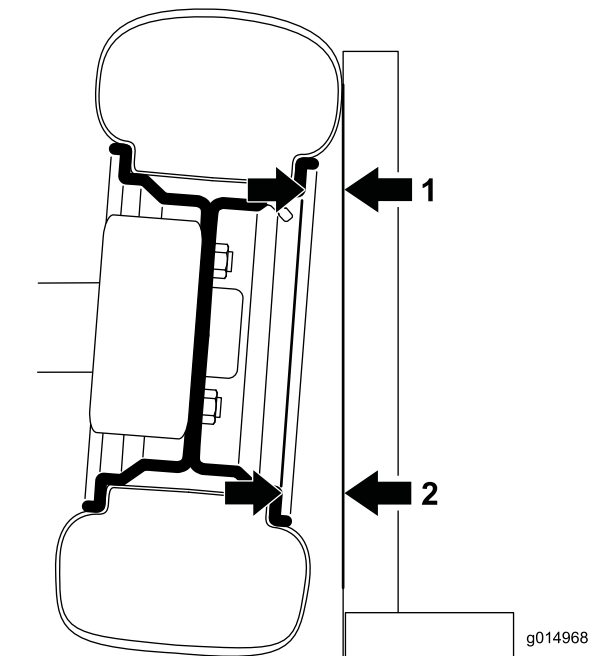

Figure 52
1. To check the camber, place a 90-degree square on the ground with the vertical edge touching the face of the tire (Figure 52).
2. Measure from the same part of the rim on the top and bottom of the tire to the square (Figure 52).